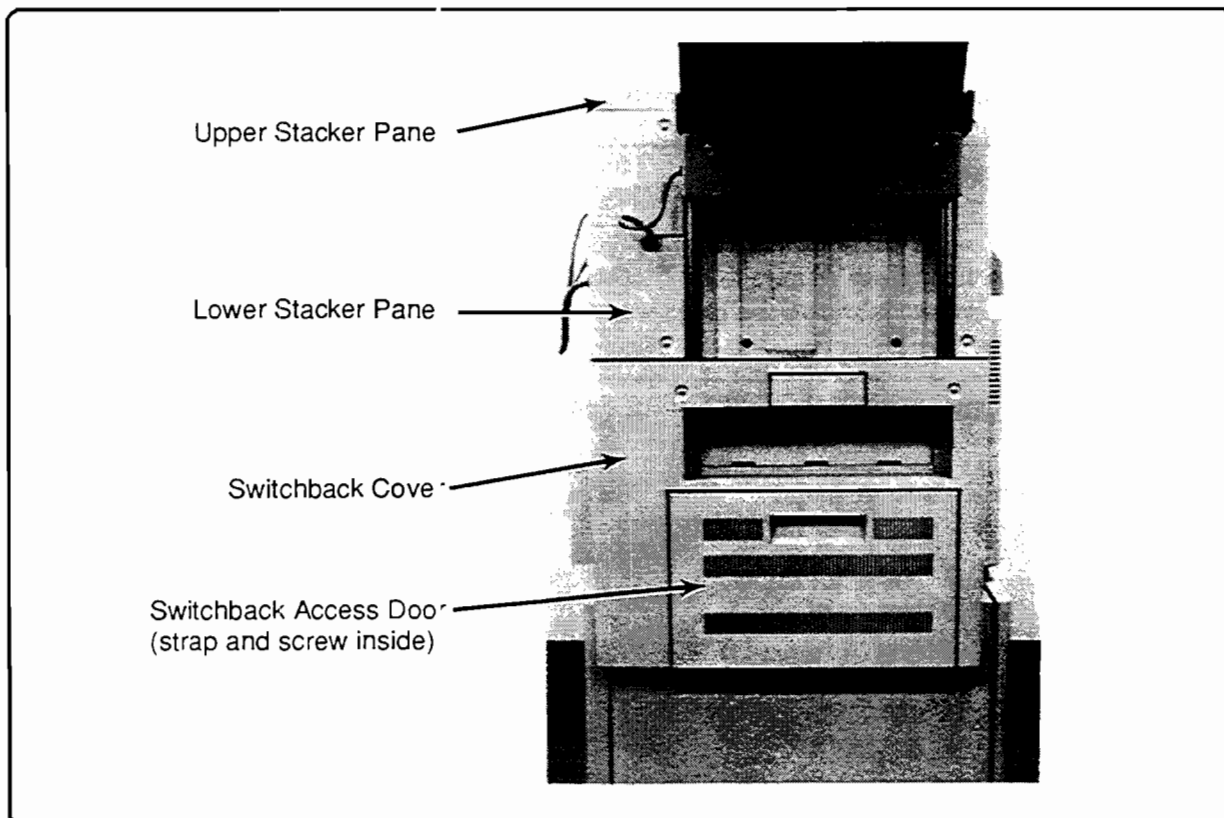

Figure 4-4. Switchback Area Covers
k. Switchback Cover (Figure 4-4). See NOTE below.
l. Switchback Access Door Support Strap Screw (Figure 4-4).
m. Lower and Upper Rear Stacker Panels (Figure 4-4).